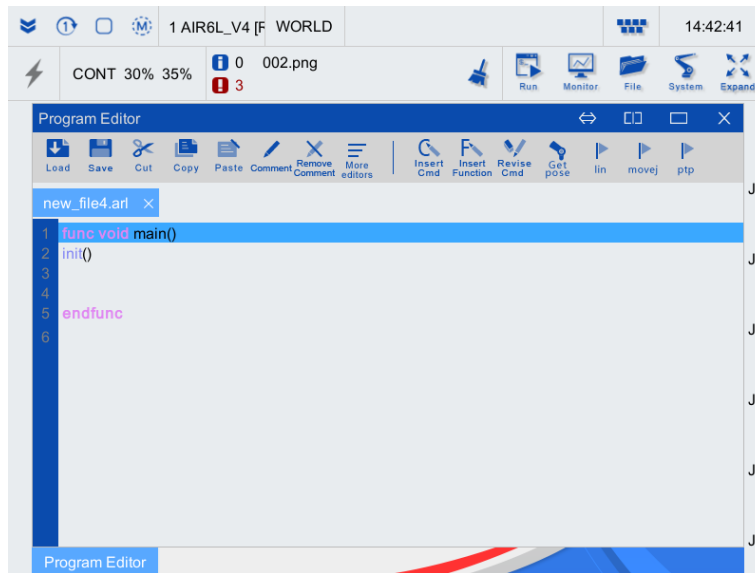

Fig. 5-2 Program editor
- Step 2. Double-click the file to open it in the program editor. All arc welding instructions can be inserted in the program editor, as shown in Fig. 5-2.